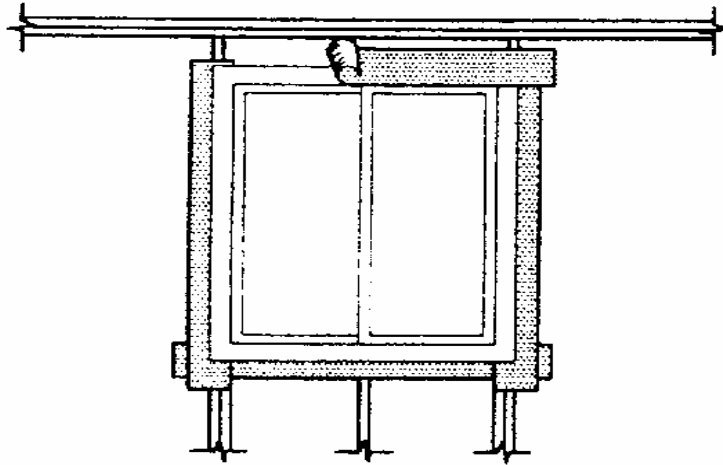

FIGURE 1. FLASHING AROUND WINDOW
- All laps must allow any moisture to go to the outside. This means the paper must lap over the paper underneath. The bottom flange of windows shall be to the outside of the bottom flashing. See figure 1 and 2 on page 2.
- Start exterior lath at the bottom (sole plate) and work up. Do not install lath paper over the wire mesh of the paper underneath. See figure 1 on page 2
- All windows and doors must be installed and flashed per figure 1 on page 2
- All windows and doors must be installed and flashed per figure 1 on page 2.